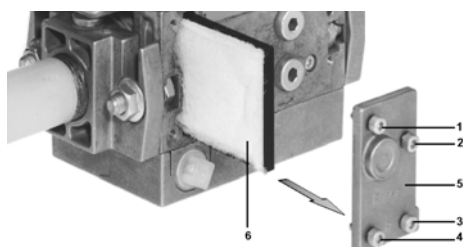

Fig. 34
- 2 Remove screws 1 ÷ 4 using the Allen key n. 3 and remove filter cover 5 in Fig. 34.